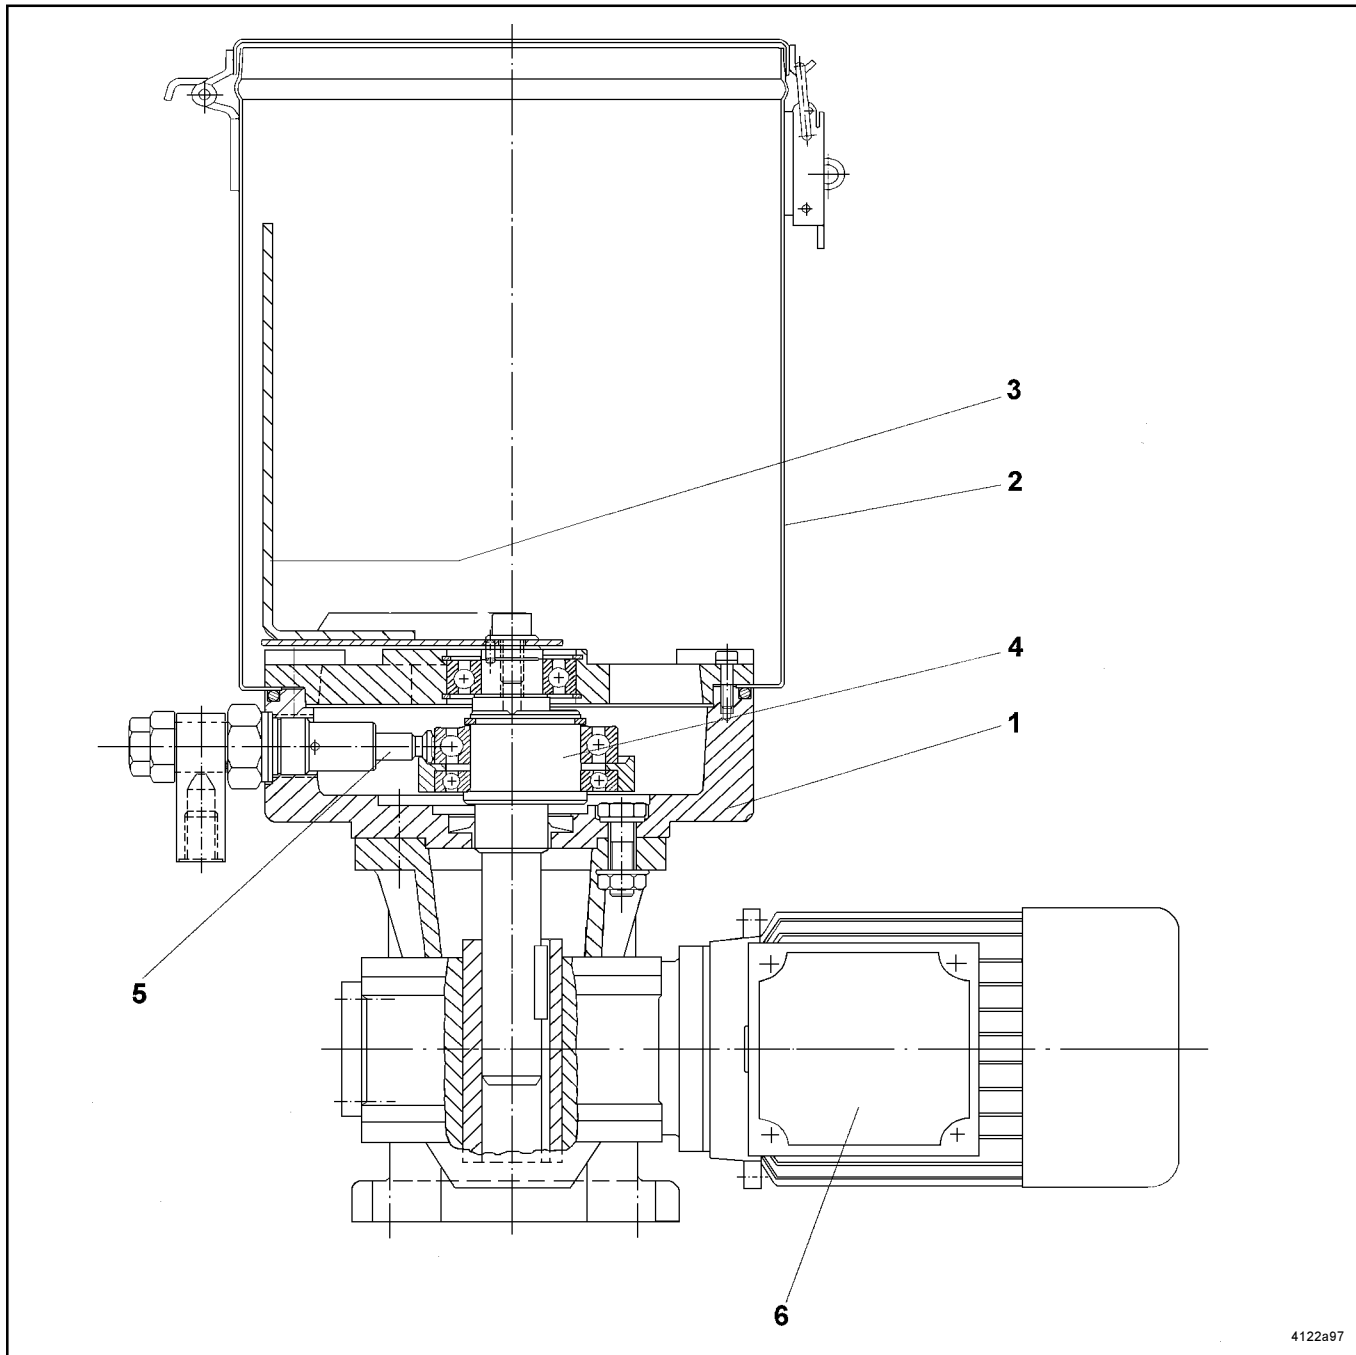

Fig. 1- Sectional drawing of pump model ZPU 01/02
- The worm gear (6, Fig. 1) reduces the speed of the drive motor down to the speed of the eccentric shaft.
- The eccentric shaft (4) causes the oiston in the pump element (5) to be moved forward and backward, with the result that the lubricant is sucked in and dispensed to the outlet via a check valve.
- At the same time, the eccentric shaft also drives the stirring paddle (3). The rotation of the stirring paddle causes the lubricant to be homogenized and dispensed to the suction boreholes of the pump element.